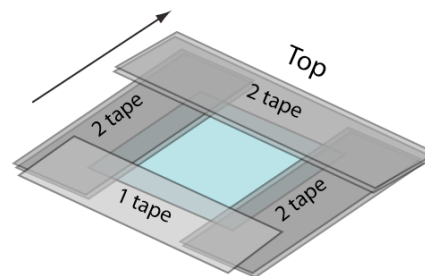

Figure 3. Conductive glass with tape border. Number of pieces of tape are shown.
5. Using Scotch tape, make a 3-sided border with two pieces of tape on each side. Use one piece of tape on the 4th side. Smooth and press the tape by pushing and dragging a glass stir rod across the surface. See Figure 3 as an example.